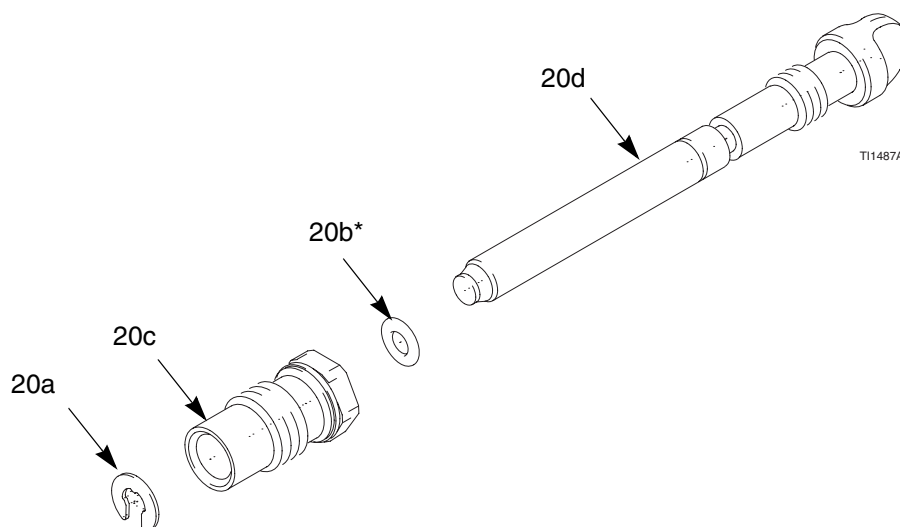

Fig. 16. Fan Air Adjustment Valve
2. Place a wrench on the flats of the valve assembly (20) and unscrew it from the handle (17). You may replace the valve as an assembly (go to step 9) or as individual parts (steps 3-9).
3. Remove the retaining ring (20a). See FIG. 16..
7. When reassembling the fan air valve (20), lightly lubricate the valve threads and screw the stem (20d) fully into the housing (20c) until bottomed. Install the o-ring (20b*), lubricate, and unscrew the valve stem until the o-ring enters the housing.
9. Screw the valve assembly (20) into the gun handle, using a wrench on the flats of the housing. Torque to 15-25 in-lb (1.7-2.8 N•m).